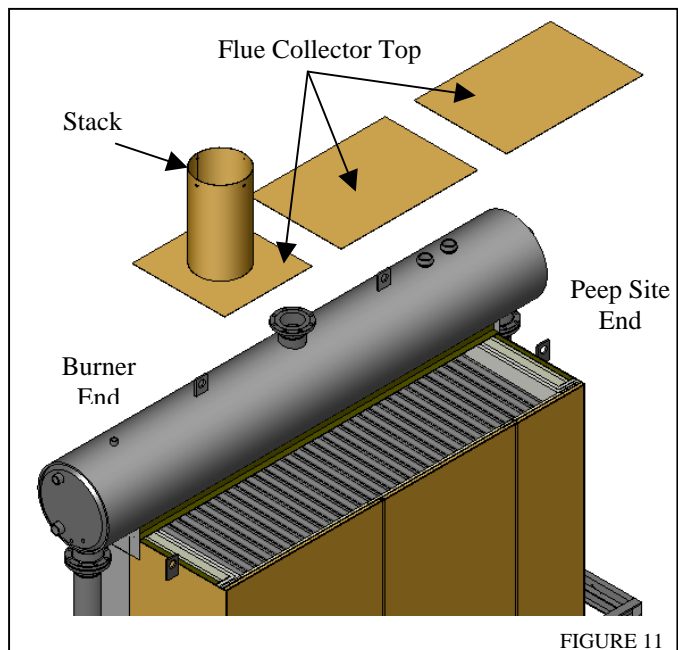

FIGURE 11
- 3.11** The flue collector top sits on top of the flue collector box, panels overlapping. The stack goes toward the burner end of the flue box. See figure 11. The “T”-shaped baffle is welded to the bottom of the flue collector top and is located according to the placement of the first vertical baffle. See figure 8 & 9, page 6.